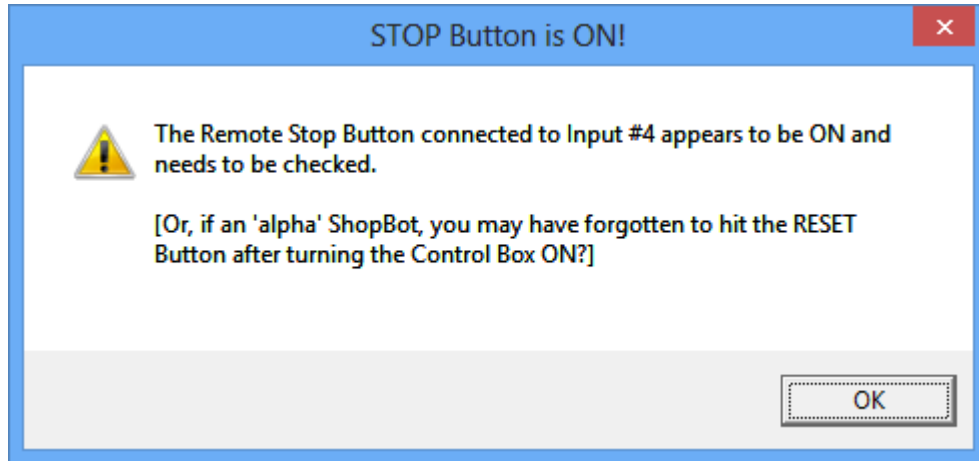

Figure 8: Command Menu in ShopBot 3 Software Interface
8. An error (Figure 8) may appear several times. Make sure to rotate and pop out both ESTOP switches.